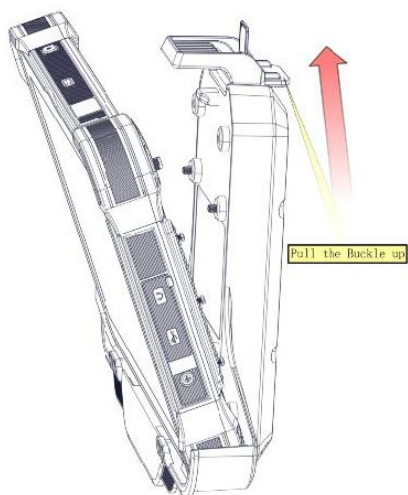

Fig. 4-3
3. Pull the buckle up as the Fig.4-3 shown.